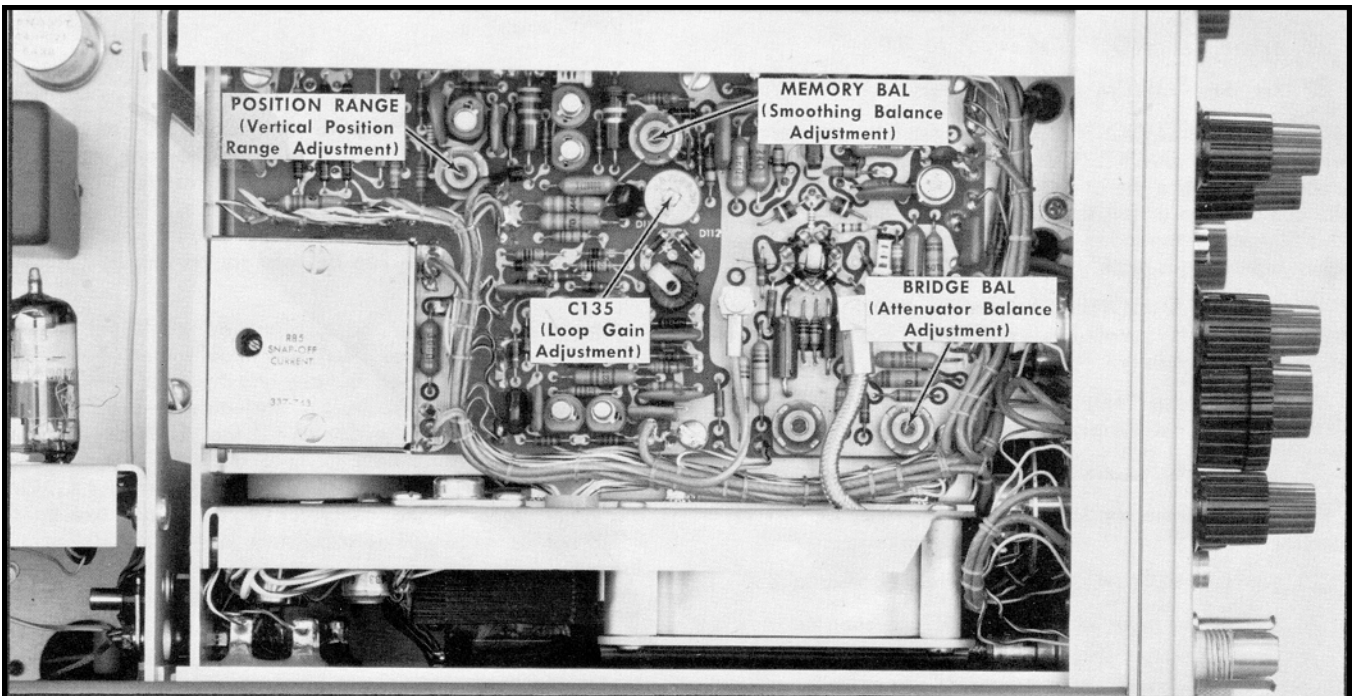

Fig. 2-4. Operational adjustment controls on the left side of the Type 1S1
2. Locate the MEMORY BAL adjustment control (R110) shown in Fig. 2-4.
5. Locate the BRIDGE BAL adjustment control (R30) shown in Fig. 2-4.
3. Locate the POSITION RANGE adjustment control (R194) shown in Fig. 2-4.